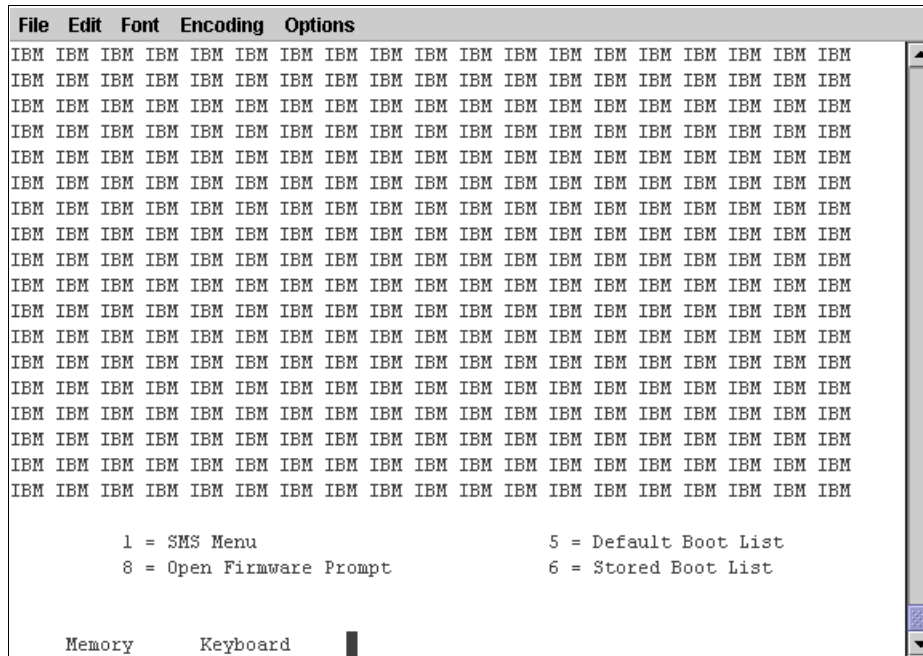

Figure 8-5 SMS menu
7. The SMS menu appears in the IVM terminal; see Figure 8-5 on page 340.